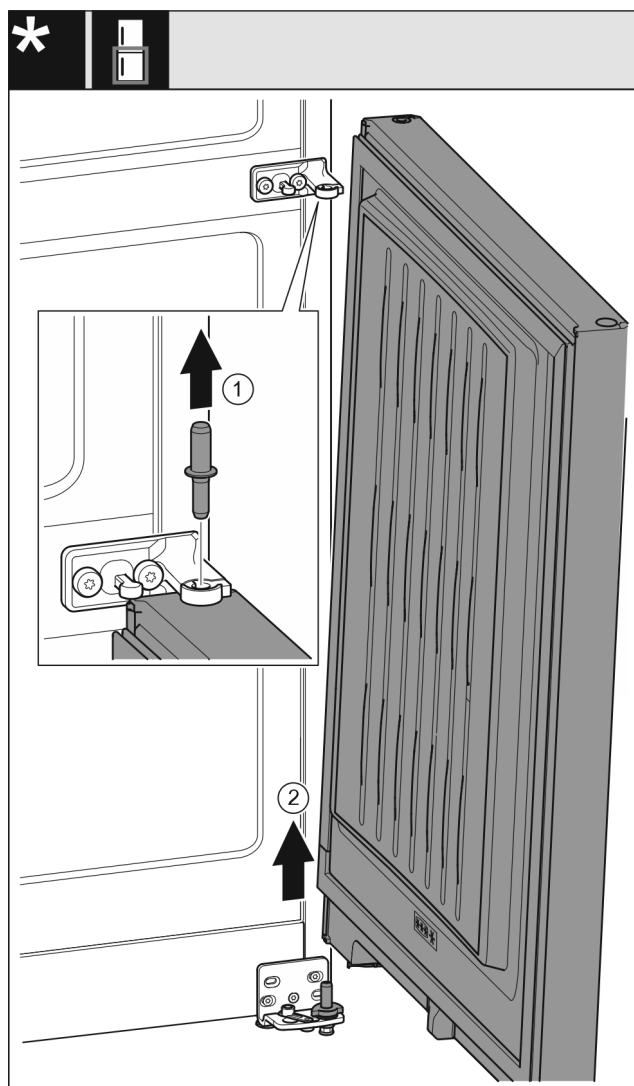

Fig. 7
- Pull out the bolts upward. Fig. 7 (1)
- Swing the door out, pull it upward and set it aside. Fig. 7 (2)